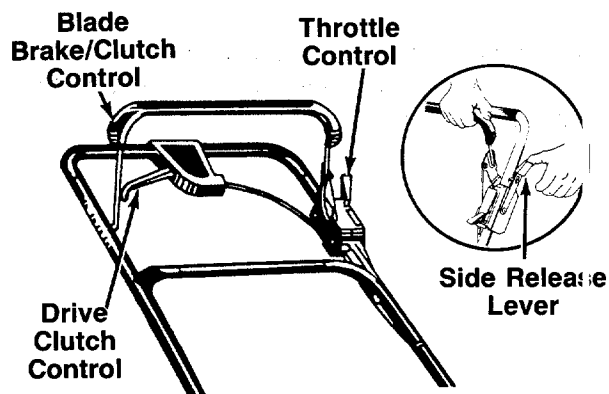

FIGURE 18.
Squeezing the drive clutch control engages the drive mechanism to the rear wheels. Releasing the clutch control stops the rear wheels from driving. Release the drive clutch control to slow down when negotiating an obstacle, making a turn or stopping. See figure 18.
To engage the blade, pull the side release lever away from the unit. See figure 18. Pull the blade brake/clutch control handle against the upper handle. Release side lever.
2. To engage the blade, pull the side release lever away from the unit. Pull the blade brake/clutch control handle down against the upper handle. Release the side lever. See figure 18.